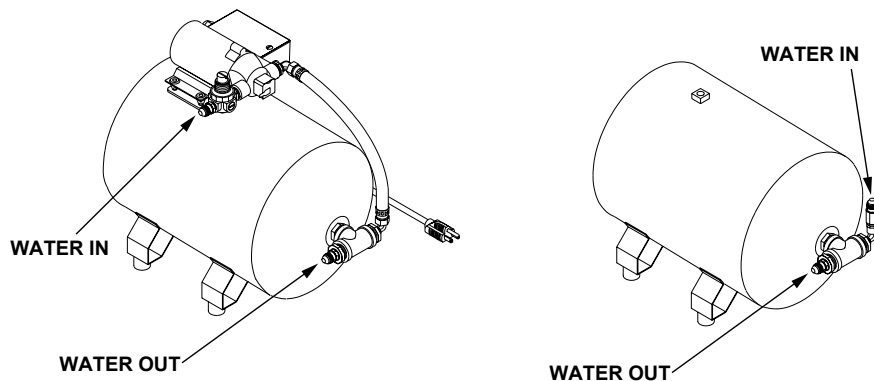

Figure 1
1.3 CONNECTING WATER LINE (SEE FIGURE 1)